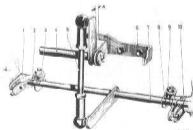
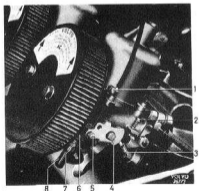

Fig. 30. Intermediate shaft and levers
Fig. 31. Controls
2. Fit the intermediate shaft in position between the carburetors, see Fig. 30. Make sure that the protective plate is in good condition and that the sealing surfaces are clean.
1. Place a 0.5 mm feeler gauge at "A" Fig. 30 between the lever and its abutment. Screw out the fast idling and idling screws (2, Fig. 31) so that the throttle flap is fully closed.
2. Loosen the lock nuts (3 and 9, Fig. 30) and press the outer end of the levers (2, 8) on the
4. Screw in the idling screws (2, Fig. 31) so that they just touch the throttle levers when the throttles are closed. Then screw the idling screws in a further 1/2 turn.
2. Loosen the screw (5, Fig. 31) for the control cable. Lift the lever so much that the jet just starts to go down.
3. Adjust the fast idle screw (3) so that it just touches the fast idle cam on the lever (4) when the jet starts to be influenced as described in the previous item. Tighten the locking screw for the control cable in this position.